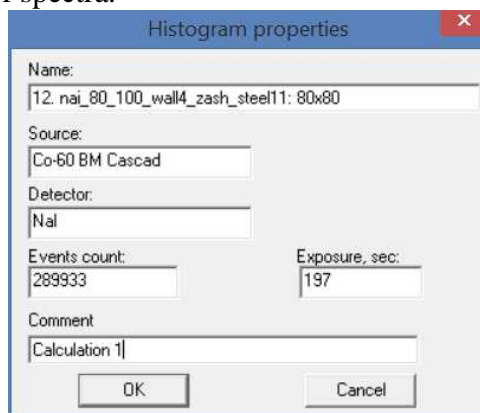

Figure 41. **Histogram properties** window
**Set name and comment** – calls the **Histogram properties** window with the parameters of the currently selected spectrum and allows you to change them (see Fig.41). The **Histogram properties** window can also be invoked by double-clicking the left mouse button on the desired spectrum in the table of spectra.